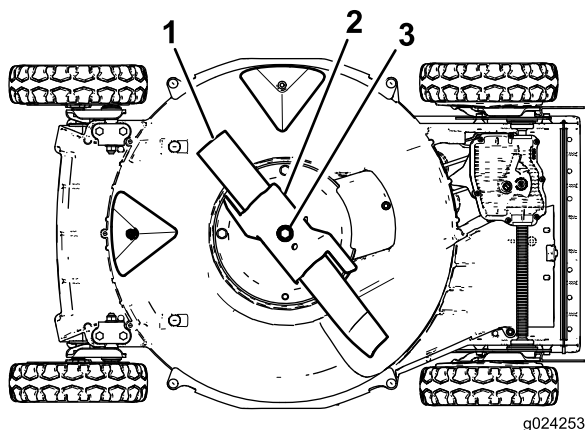

Figure 23
4. Tip the machine onto its **right** side (air cleaner up) as shown in Figure 23.